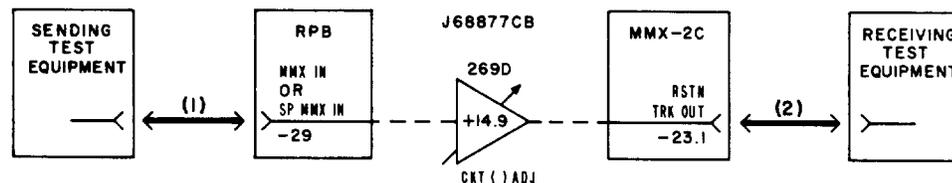

Fig. 2—Receiving Restoration Trunk for Regular or Spare MMX-2
4	Make patches designated (1) and (2) in Fig. 2.